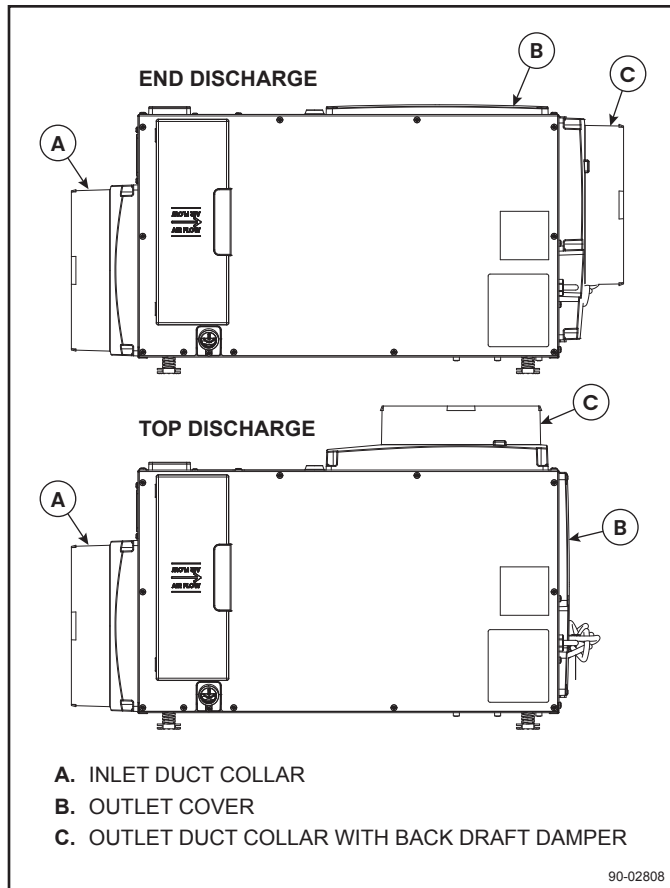

Figure 4: Fully Ducted Installations
- The outlet duct collar may be attached to the top or end of the unit. Move the outlet cover to the location not being used (see **Figure 4**).